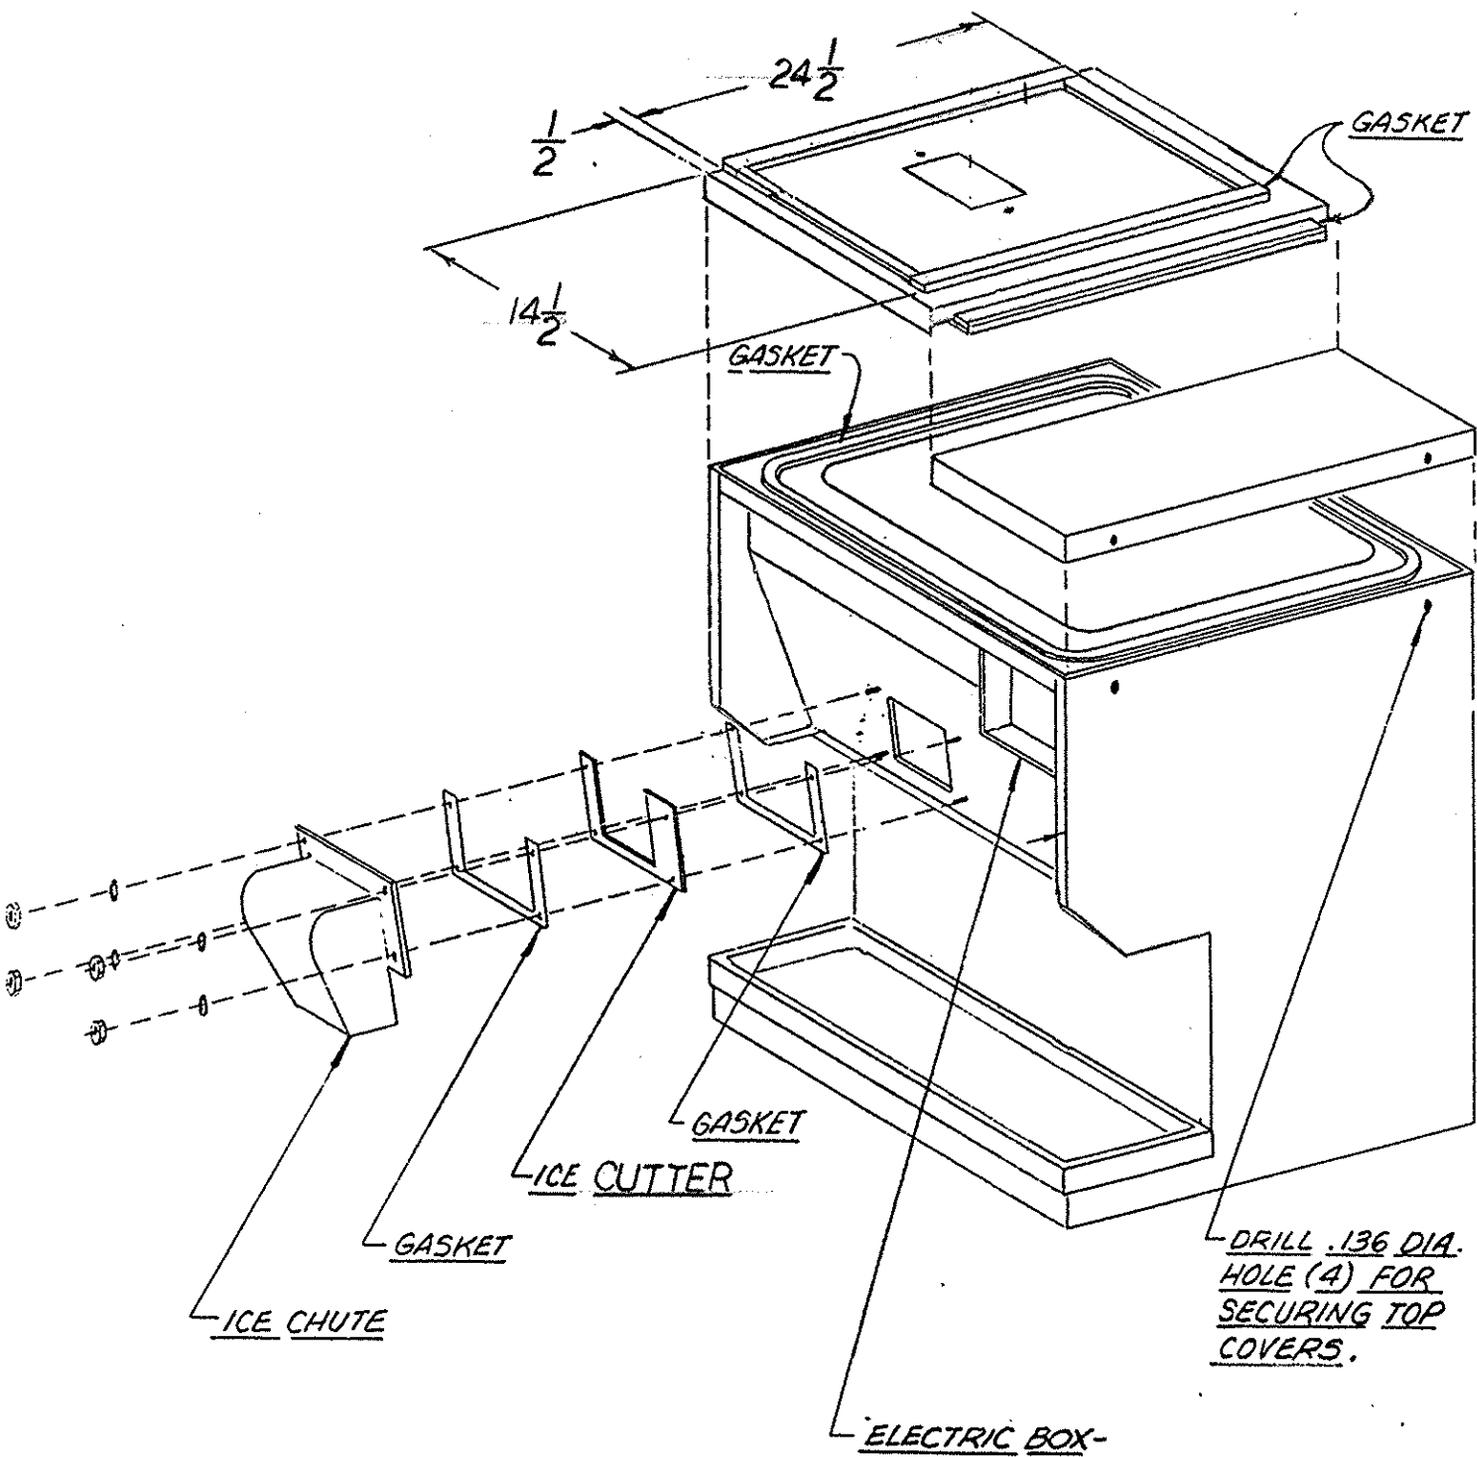

FIG. 1
3. Using Fig. 1 as a guide:
- B. Install agitation timer in electric box with screws (2) provided.